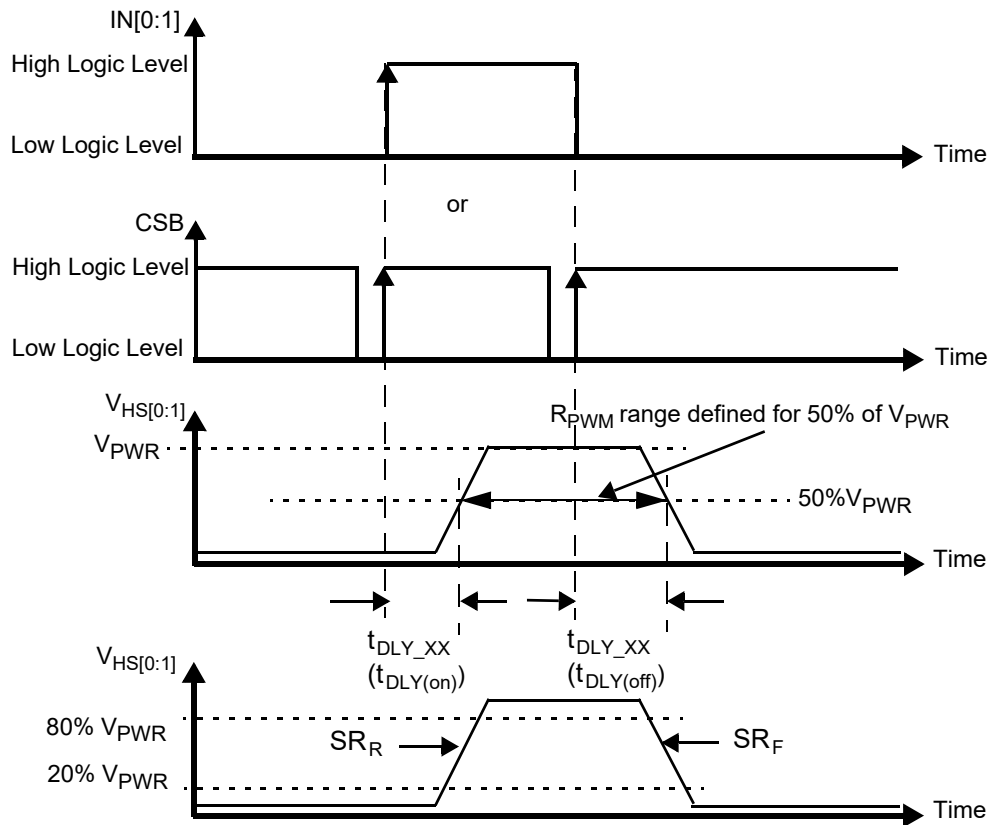
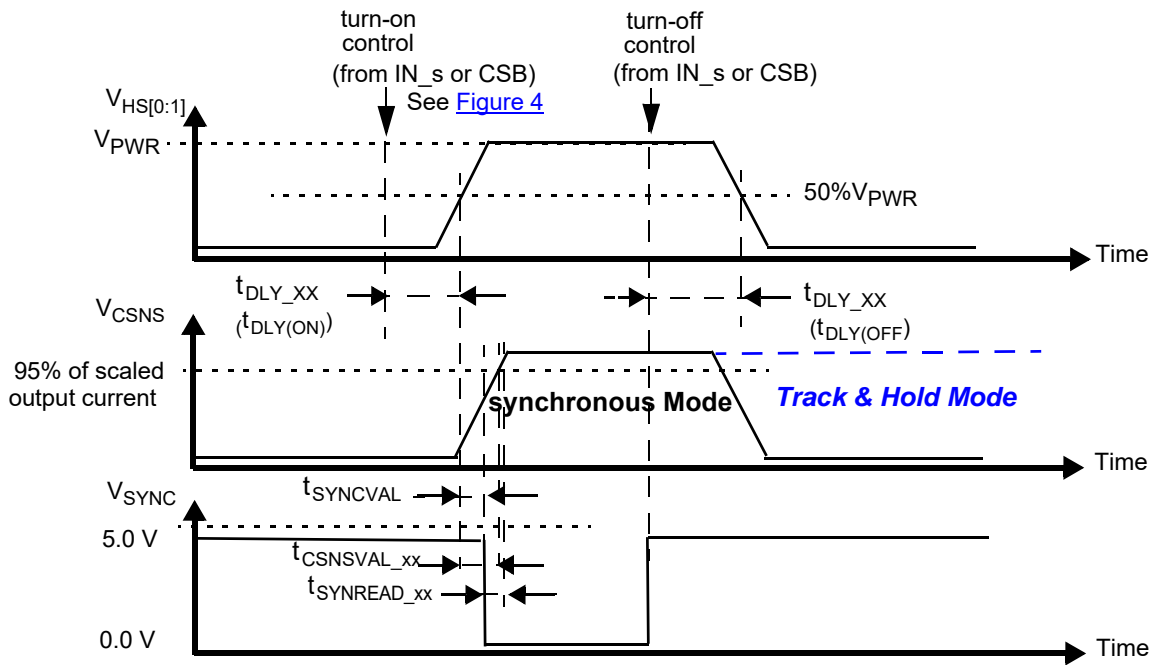

Figure 4. Output voltage slew rate and delay
Figure 9. Synchronous and Track & Hold current sensing modes: associated delay and settling times
27. Rising and Falling edge slew rates specified for a 20 % to 80 % voltage variation on a 10.0  $\Omega$  resistive load (see Figure 4).
29. Time required to switch off the channel after detection of overtemperature (OT), overcurrent (OC), SC or UV error (time measured between start of the negative edge on the FSB pin and the falling edge on the output voltage until  $V(HS[0:1]) = 50\%$  of  $V_{PWR}$ ).
30. Settling time ( $= t_{CSNSVAL\_XX}$ ), SYNC output signal delay ( $= t_{SYNVAL\_XX}$ ) and Read-out delay ( $= t_{SYNREAD\_XX}$ ) are defined for a stepped load current ( $100\text{ mA} < I(LOAD) < IOCLX\_A$  FOR  $CSNS\_RATIO\_S = 1$ , AND  $300\text{ mA} < I(LOAD) < IOCLX\_A\_0$  FOR  $CSNS\_RATIO\_S = 0$ ). (see Figure 9 and Output current monitoring \(CSNS\)).
To synchronize current sensing with an external process, the SYNC signal can be connected to a digital input of an external MCU. SYNC is asserted logic low when the current sense signal is accurate and ready to be read. The current sense signal on the CSNS pin has the specified accuracy  $t_{SYNREAD\_XX}$  seconds after the falling edge on the SYNC pin (Figure 9) and remains valid until a rising edge is generated. The rising edge that is generated by the SYNC pin at the turn-OFF instant (internal or external) may also be used to implement synchronization with the external MCU. Parameter  $t_{SYNVAL\_XX}$  is defined as the time between the instant at the middle of the output-voltage rising edge ( $HS[0:1] = 50\%$  of  $V_{PWR}$ ), and the instant at which the voltage on the SYNC-pin drops below 0.4 V ( $V_{SOL}$ ). The SYNC pins of different devices can be connected together to save micro-controller input channels. However, in this configuration, the CSNS function of only one device should be active at a time. Otherwise, the MCU does not determine the origin of the SYNC signal. The SYNC pin is open drain and requires an external pull-up resistor to  $V_{DD}$ .